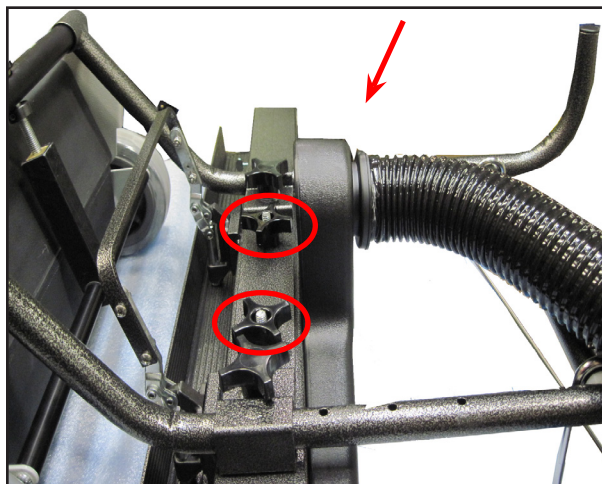
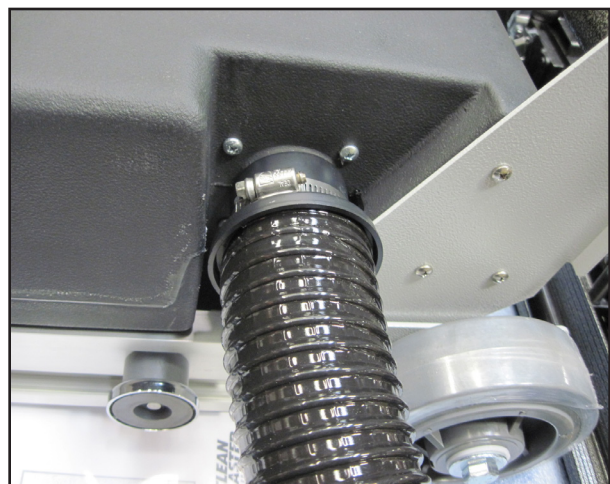

Figure 5. Secure Head Assembly with Fluted Knobs; Attach Hose to Nozzle
Figure 6. Attach Other End of Hose to Housing Assembly
4. Secure the head assembly to the lift arm by re-installing the two fluted knobs (see Figure 5).
5. Attach the vacuum hose between the housing and the cleaning nozzle. The hose connector with the shorter end should be connected to the cleaning nozzle assembly (see Figure 5). The hose connector with the longer end is connected to the housing (see Figure 6) and should be secured by tightening the clamp.